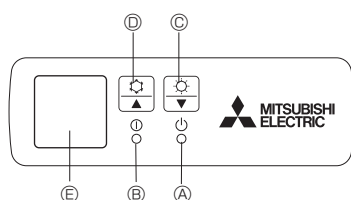

Fig. 9-1
- [Fig. 9-1] (A) DEFROST/STAND BY lamp